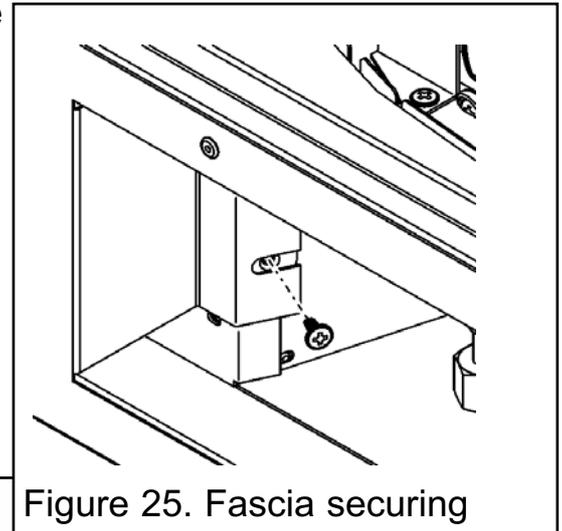

Figure 25. Fascia securing
2. Remove the two fascia securing screws (See figure 25).